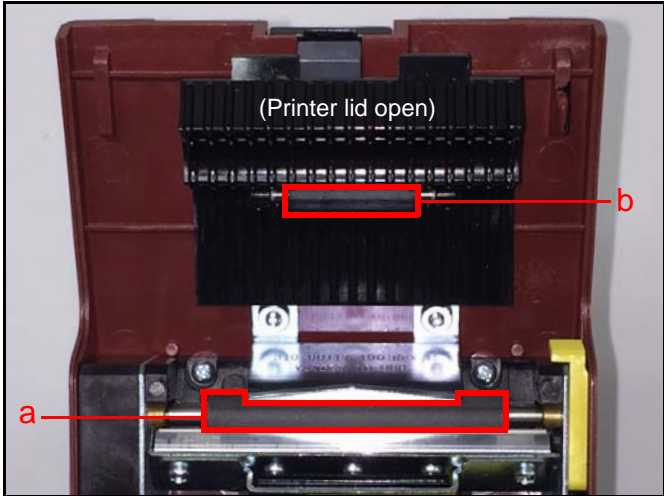

Figure 17 Platen Roller/Pinch Roller
- Use a Cleaning Wipe to wipe and clean the Platen Roller (Figure 17 a). Rotate the Roller to clean the Roller's entire circumference.
- Use a Cleaning Wipe to wipe and clean the Upper Pinch Roller (Figure 17 b).